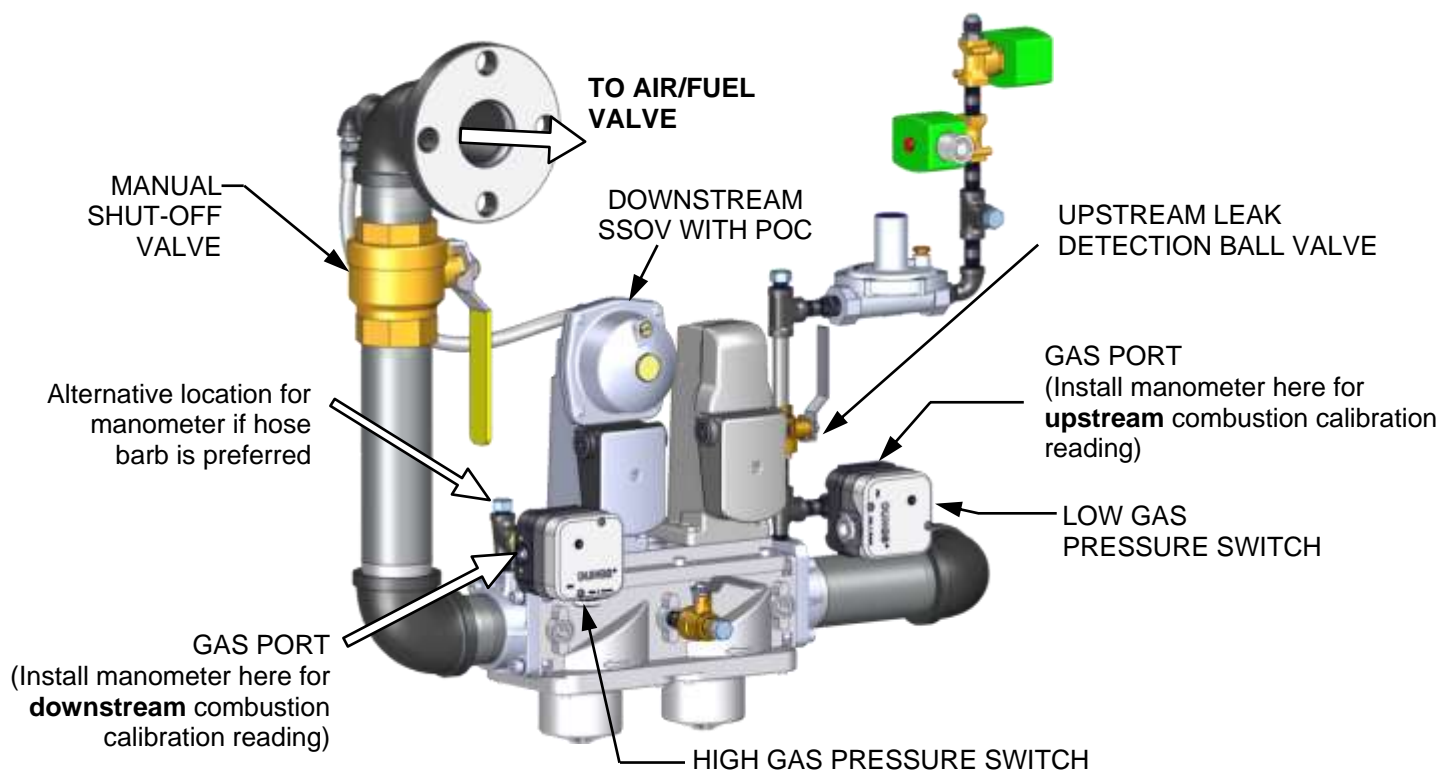

Figure 4-1f: Port Location for Combustion Calibration – BMK5000-6000
3. Connect the manometer directly to the Low and High Gas Pressure Switches, as shown in Figure 4-1f.